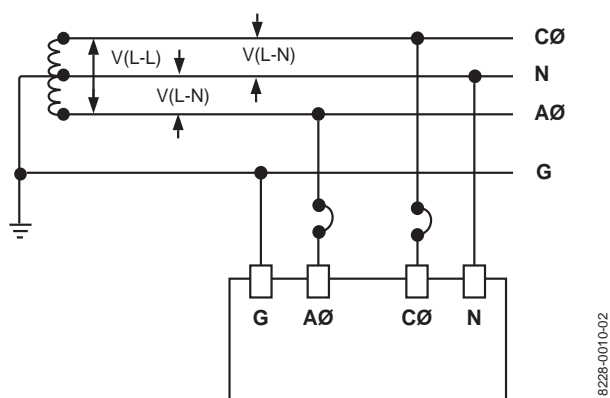

Figure 2: Single-Phase, Grounded Installation
4. Connect the device to the equipment using an approved wiring method. The connecting wires should be twisted together and kept as short as possible to enhance the performance of the device. See pages 7 and 8 for the recommended wire size. For wiring diagrams, see figures 2 thru 4.